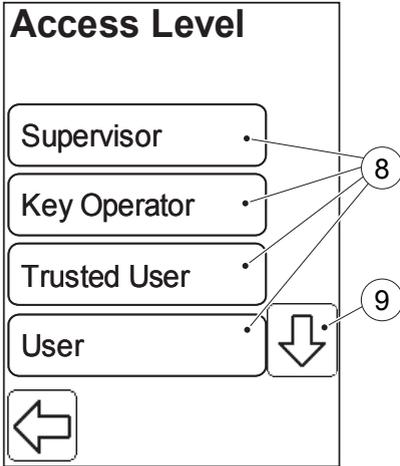

FIGURE 4-26
- g) Press the Confirm button (7). *FIGURE 4-26* will be displayed.